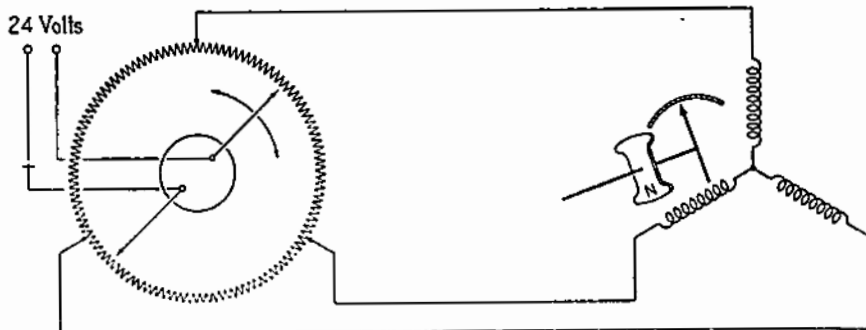

Fig. 2. Desynn Transmitter and Indicator Circuit.
7. **Electrical Transmitters—Desynn Type.** The Desynn transmitter (Fig. 2, left) contains a fixed resistance in the form of a continuous circular coil, tapped at three points 120° apart.
By means of an arm carrying two brushes, current is applied to the resistance at diametrically opposite points, the position of the arm being controlled by a pressure-operated bellows mechanism. Each of the three tappings on the transmitting resistance is connected to one of the outer ends of three coils (Fig. 2, right) on the indicator, which are disposed with their electrical axes also 120° apart. The inner ends of the coils have a common connection. The resultant magnetic field due to the current in the three coils moves therefore in a fixed relationship to the two transmitting brushes. A permanent magnet is suspended within this field on bearings and has a pointer fixed to its shaft. The magnet aligns itself with the direction of the resultant field, and thus the pointer moves in sympathy with the transmitter brushes.